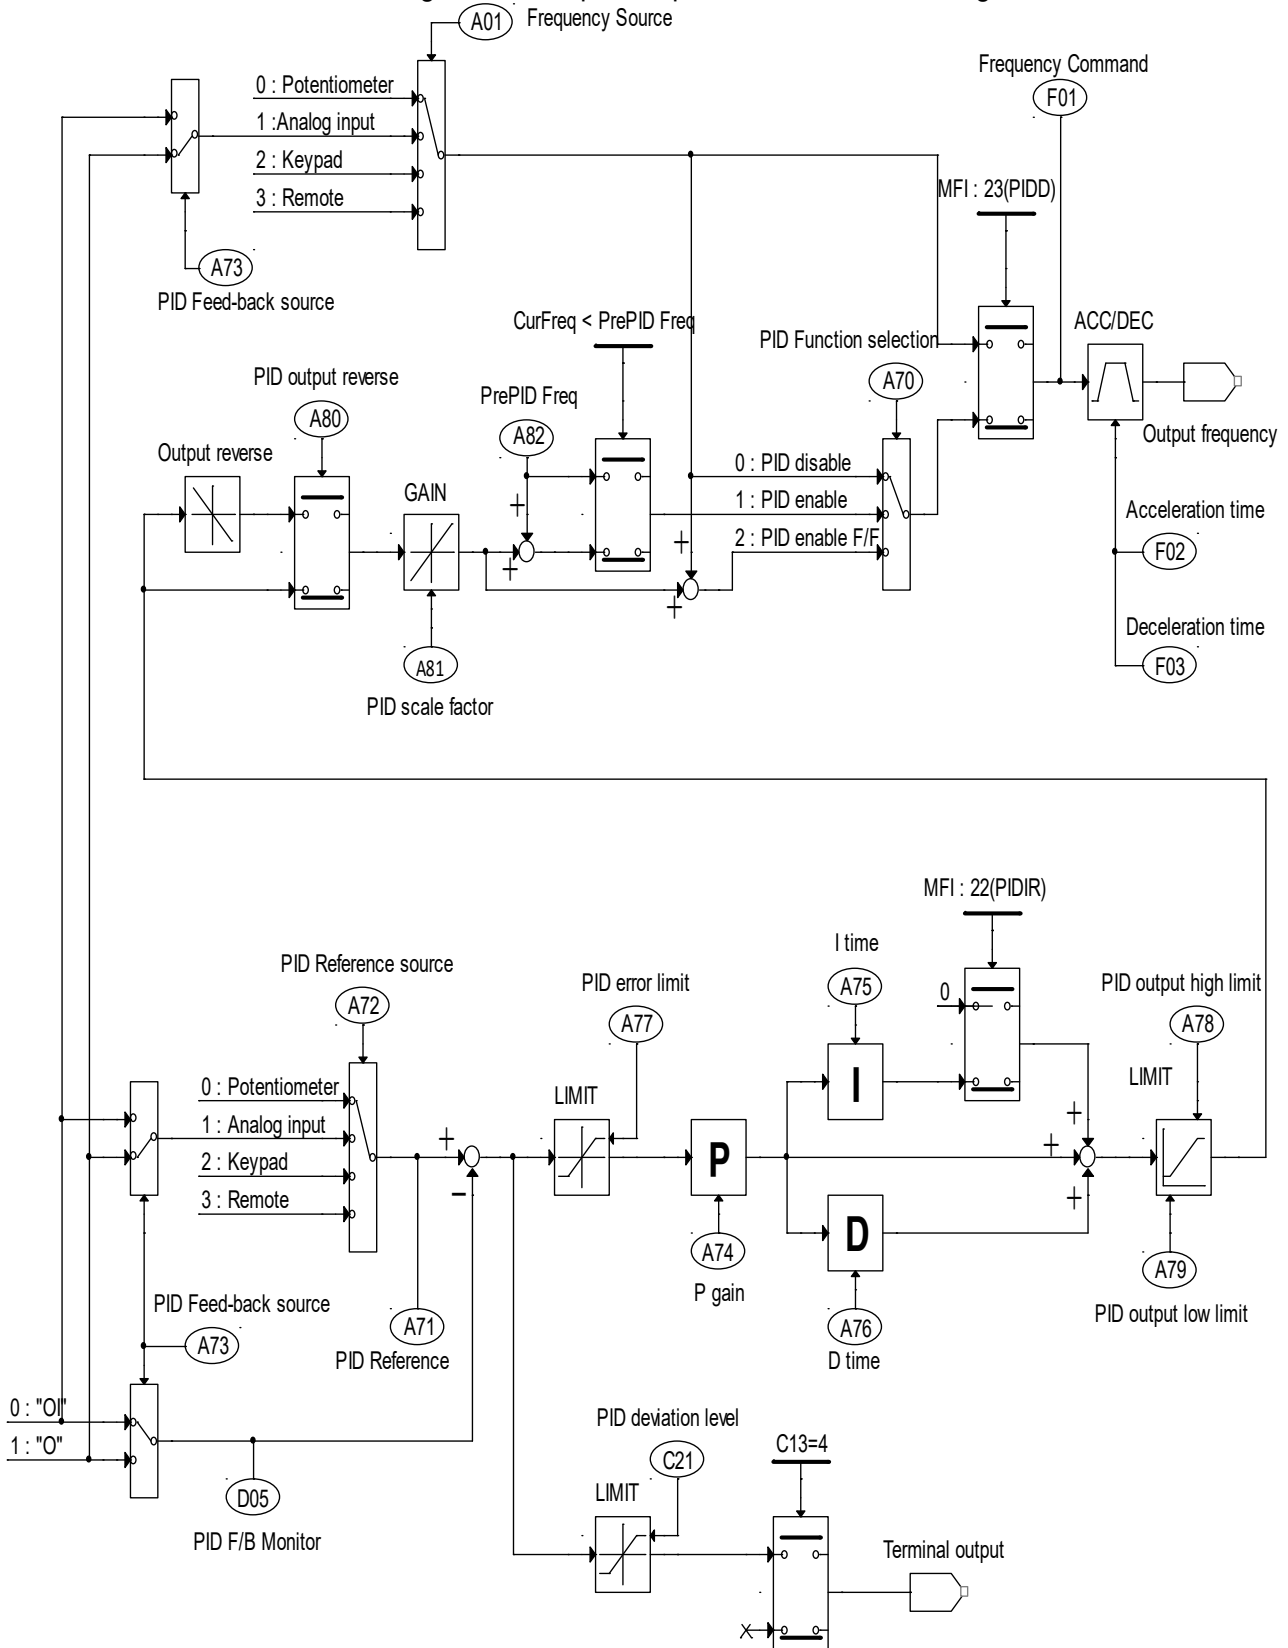

Figure 3-1: PID diagram
- The overall PID control diagram with respective parameters is shown in Figure 3-1